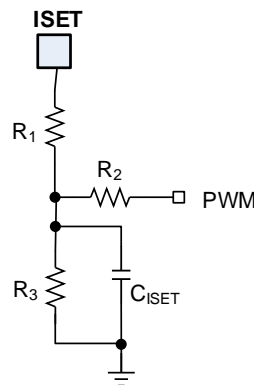

Figure 3: Equivalent R_{ISET} Circuit
Figure 3 shows the equivalent R_{ISET} circuit. It is possible to change the equivalent R_{ISET} by modifying the duty cycle of the PWM signal from an MCU. This means that the charging current can be adjusted in real time.
Based on Figure 3, the equivalent resistance (R_{EQ}) between the ISET pin and AGND can be calculated with Equation (2)